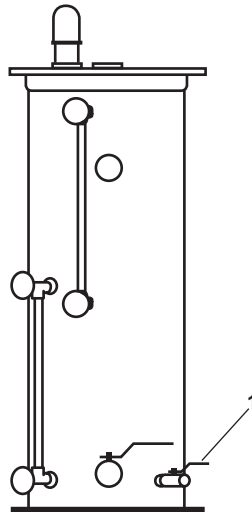

Figure 1. MSD Wet Well
1. Place a suitable drain pan under the WET WELL SAMPLE valve MSD-11 (figure 1, item 1).
2. OPEN and CLOSE the WET WELL SAMPLE valve MSD-11 (figure 1, item 1) to flush any contaminants out of the valve.
3. Fill a suitable sample bottle with effluent from the WET WELL SAMPLE valve MSD-11 (figure 1, item 1). Let the sample settle for about 15 minutes.